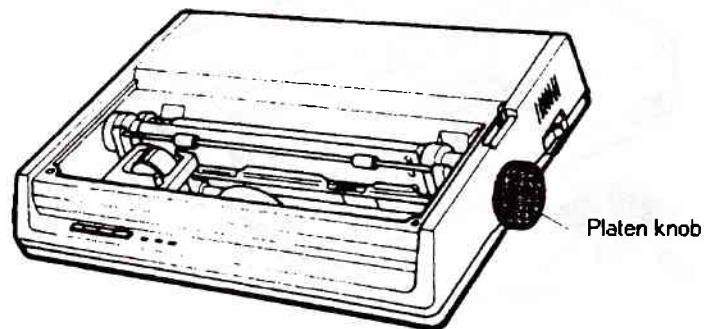

Figure 29, Platen knob
8. Use the PLATEN knob (see figure 29) until the first perforation between two pages is at the tear off edge of the access cover.